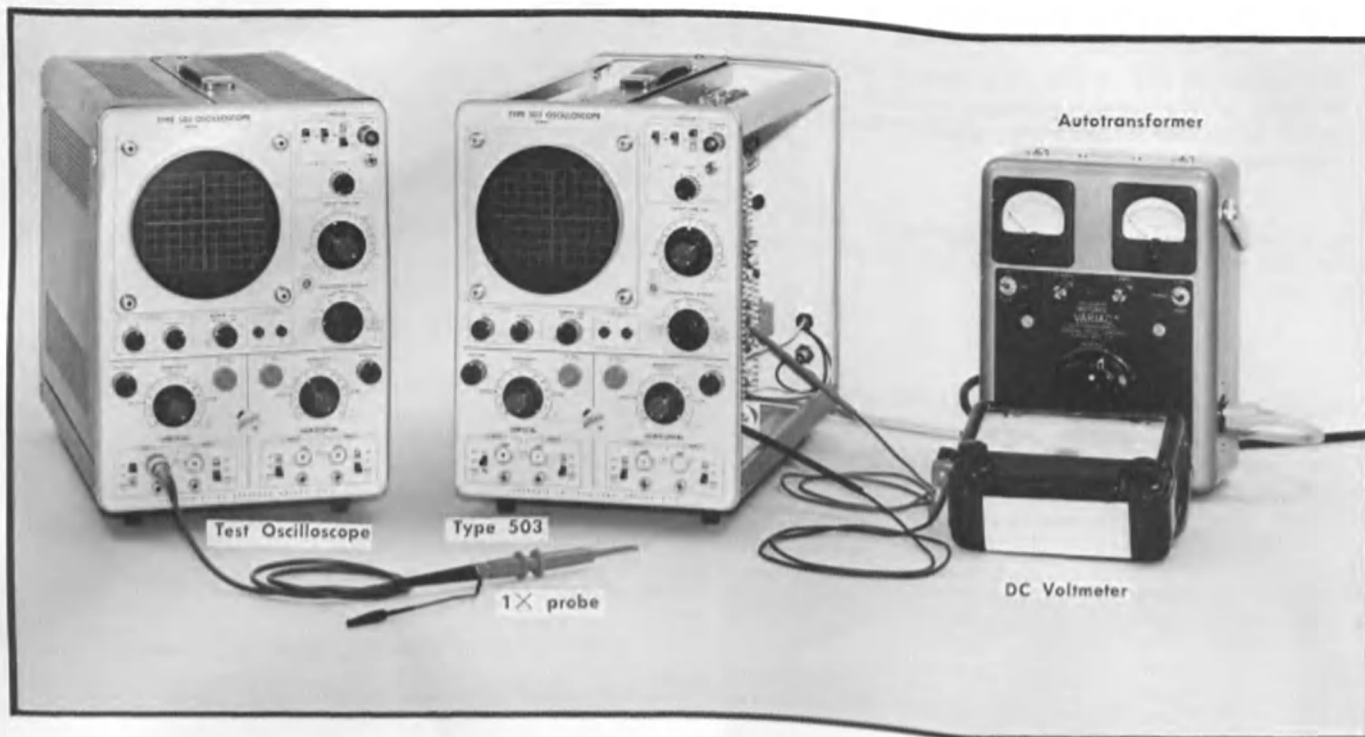

Fig. 6-6. Test equipment setup for power supply ripple and regulation check.
a. Test equipment setup is shown in Fig. 6-6. The Type 503 control settings remain as in Step 1.